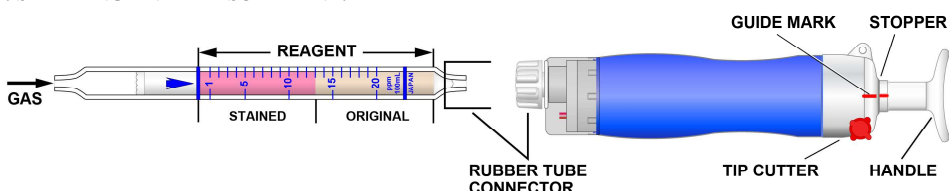

Fig.2
- ② Insert the detector tube into the aspirating pump securely as shown in Fig.2. (Arrow mark shall point to the pump.)
- ③ Align the guide marks on the shaft and stopper of the aspirating pump.
- ④ Pull the pump handle at a full stroke until it locks and wait for 1 minute or until the completion is confirmed with the flow indicator of the pump. (See descriptions about the flow indicator in the instruction manual of the pump.)
- ⑤ On completion of sampling, read the scale at the maximum point of the stained layer.
- ⑥ When the concentration is below the scale range, 2 pump strokes can be used to determine concentrations of 0.5 to 10 ppm.